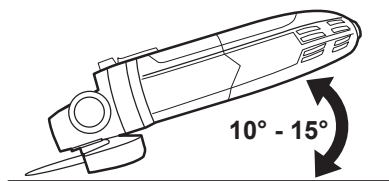

Fig. 18
1. Tilt the product at a 10° to 15° angle for easy handling and smooth grinding (Fig. 18).